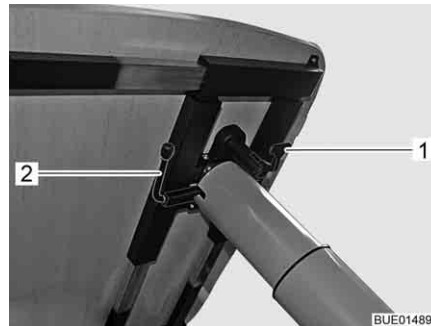

Fig. 112 Adjustment of lift-off table
- Fold lever (Fig. 112,1) downward.
- Swivel the lever (Fig. 112,2) underneath the table top by 180° in a clockwise direction. The lifting mechanism in the table leg is unlocked.
- Swivel the lever (Fig. 112,2) underneath the table top by 180° in a clockwise direction. The table top moves automatically upwards to the limit stop.